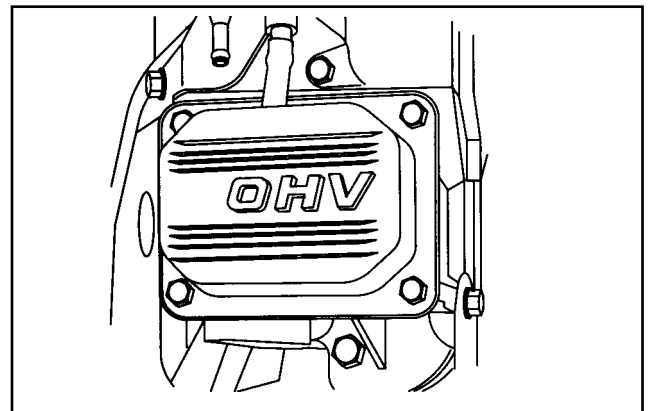

Fig. 27 - Install Valve Covers
3. Install valve covers with new gaskets, Fig. 27.